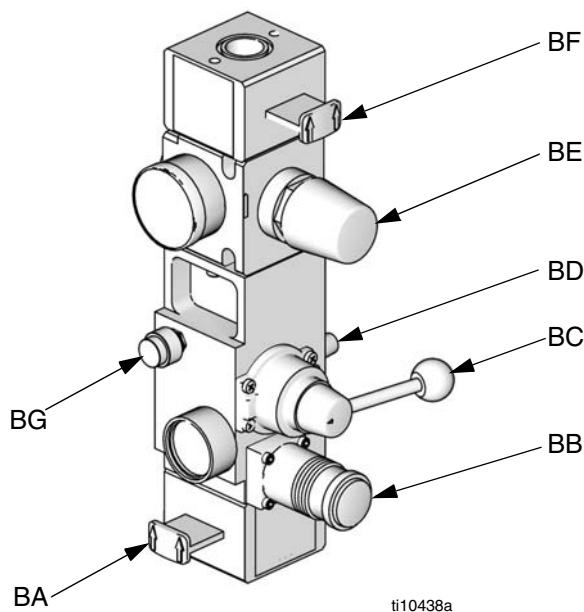

FIG. 3. Integrated Air Controls
| G Integrated Air Controls (see FIG. 3)                                    | U Air Line Drain Valve (not supplied)         |
- G Integrated Air Controls (see FIG. 3)